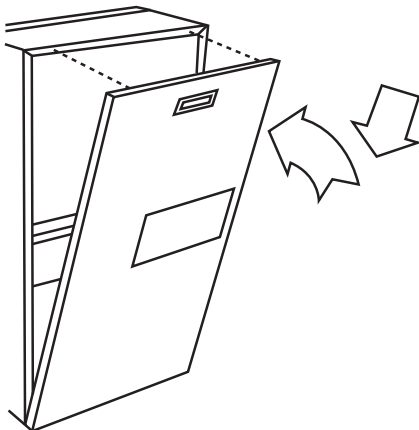

Fig. 13 - Furnace Door Replaced
7. Replace main furnace door. (See Fig. 13.)
5. Replace the main furnace door. (See Fig. 13.)